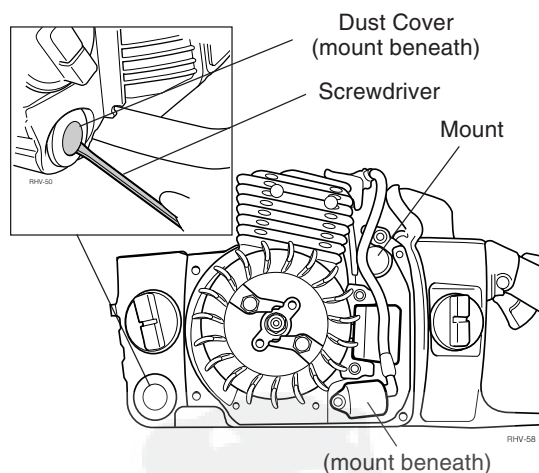

Figure 8.2 Mount Locations (575 shown)
- STEP 1.** Use a screwdriver to pry the dust caps from over the A-V mounting cushions. Loosen and remove all mounting screws or limiter bolts from the five A-V cushions (six cushions used on Model 757 (Figure 8.2))